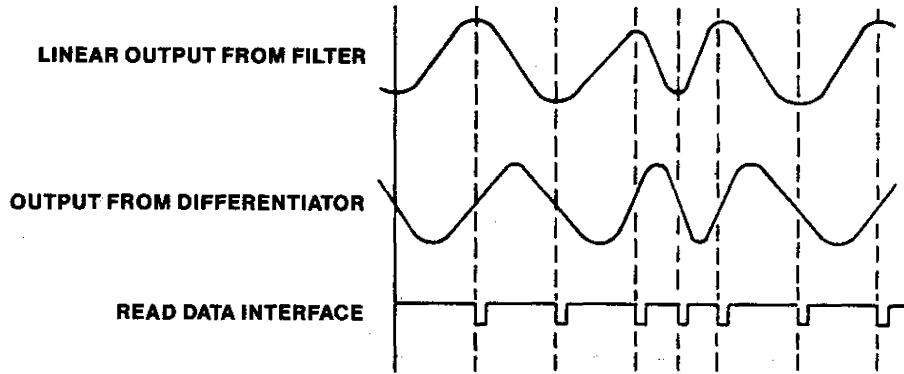

FIGURE 4-3
A. C. voltage signal which is then amplified and filtered, differentiated, and digitized (Figure 4-3).